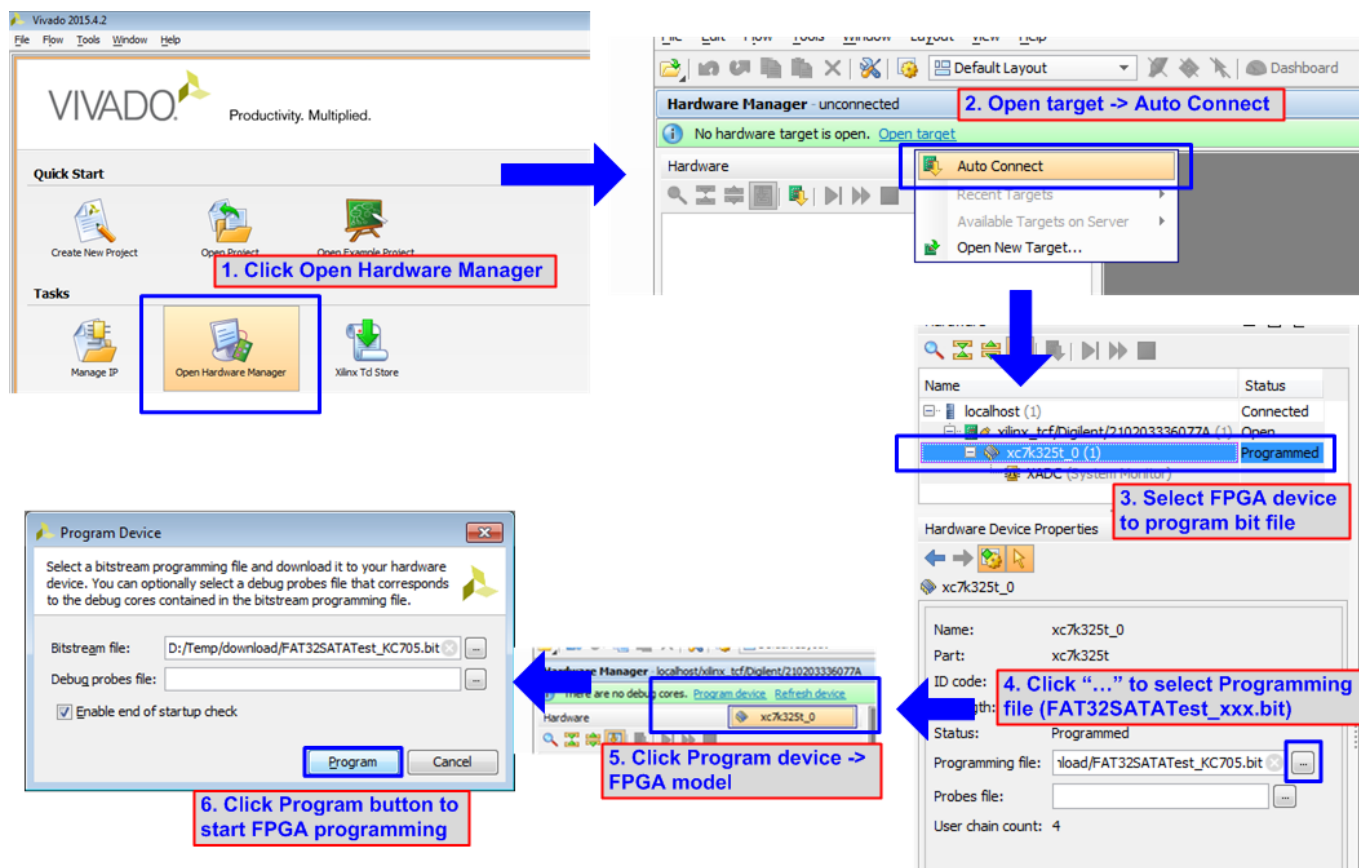

Figure 2-5 Download configuration file by Vivado tool for KC705
- a) For KC705 board, use Vivado tool to download configuration file which includes CPU firmware, as shown in Figure 2-5.